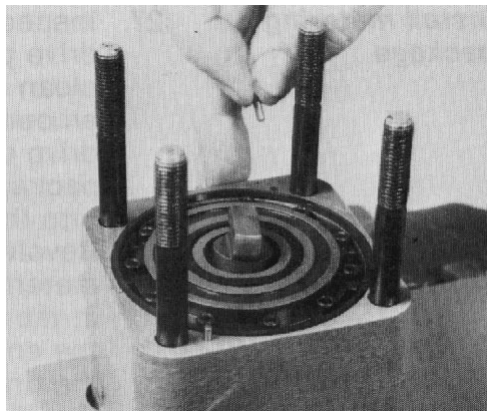

Figure 94
31. Put two alignment pins into the metering ring (Fig. 94).